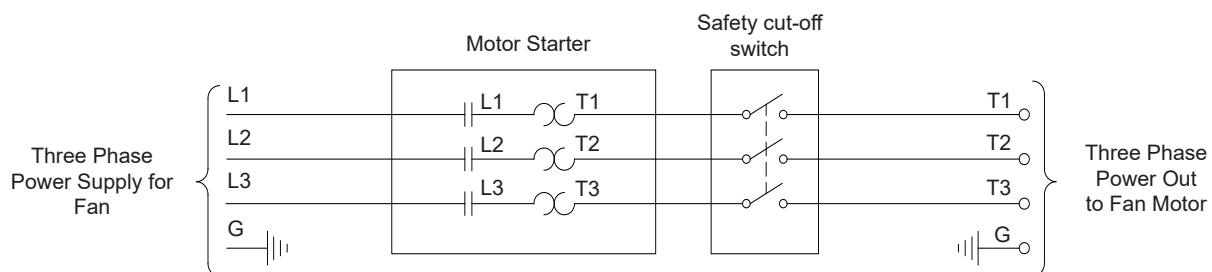

Figure 16B
**Three Phase Fans:** motor overload protection should be provided for each fan. A three-pole motor starter or slow blow motor fuses must be used. *See Figure 16B.*